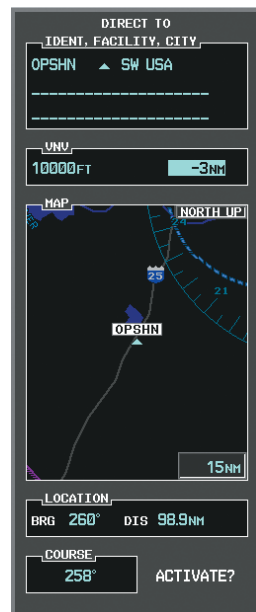

Figure 5-123 Enter VNV Offset Distance
f) Press the **ENT** Key. The cursor is now displayed in the VNV offset field as shown in Figure 5-123.